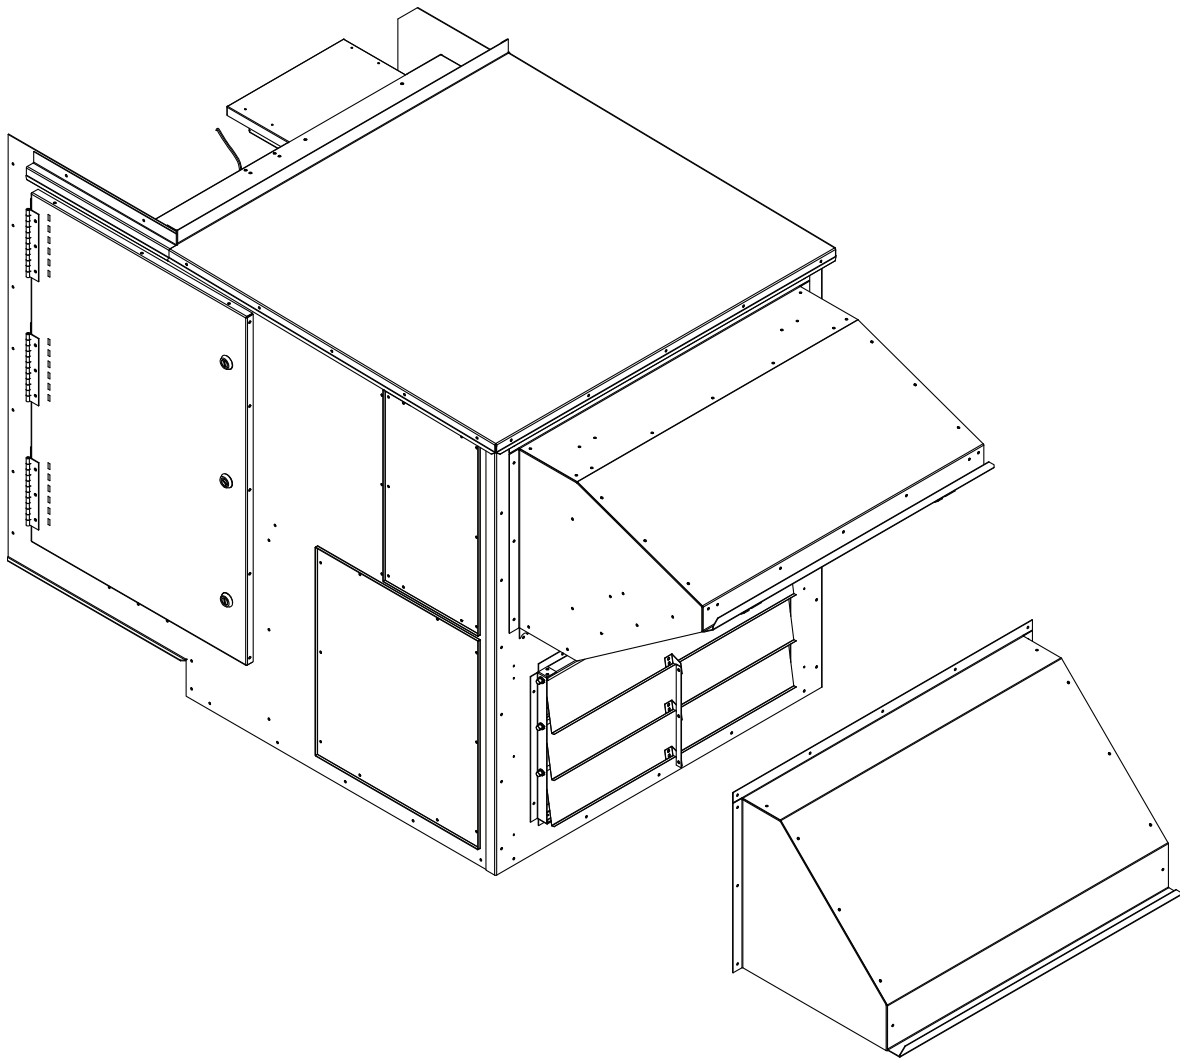

Fig. 54 — Exhaust Air Hood Removal
2. Remove the outside air motorized damper access panel by removing the self-sealing screws around the perimeter (see Fig. 54).